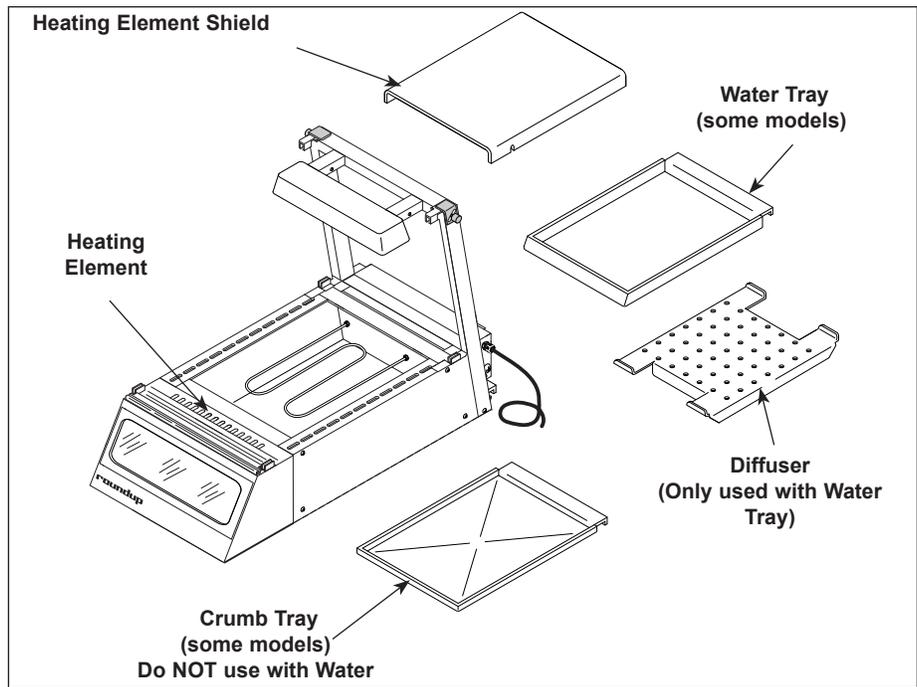

Figure 1. Display Components (DCH-100 Shown)
**NOTE:** Fogging/Condensation of the glass may occur if the Water Trays contain too much water and/or the Diffusers are not present in the water trays. Units equipped with a Crumb Tray (Figure 1) are designed to operate **WITHOUT** water.